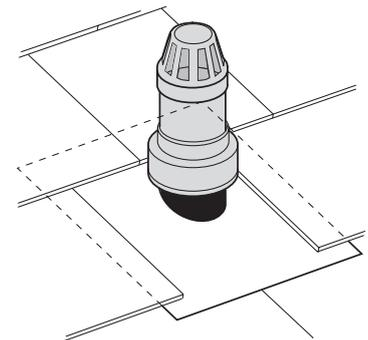

Fig. 20b Steps 2/3
Step 2 – Remove the vent cowl. Solvent-weld **131 Weathering Apron** to pipe above rubber cone to prevent water ingress (Fig. 20b)